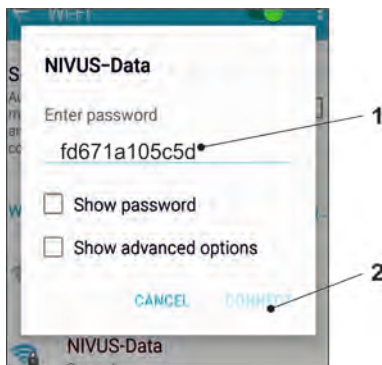

Fig. 31-5 Enter password (example here fd671a105c5d) and connect
5. Enter the password for server access (default state = PUK) (Fig. 31-5 no. 1) and connect (Fig. 31-5 no. 2).